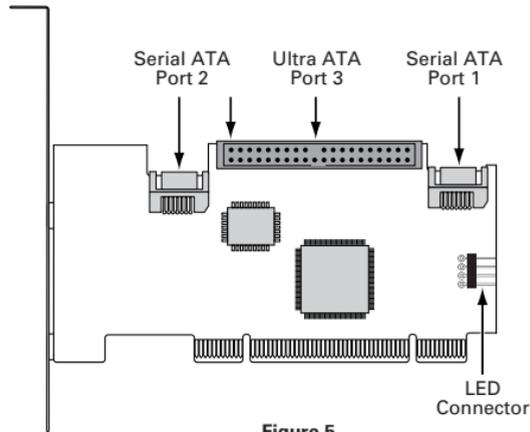

Figure 5
3. (optional) Attach your system case's 2- or 4-pin LED cable to the LED connector on the SATA/150 PCI Card (see Figure 5). Make sure that pin 1 on the connector is aligned with pin 1 of the cable. Consult your system case manual for more details on the LED connections for your case.
(See Figure 5 on page 5.)